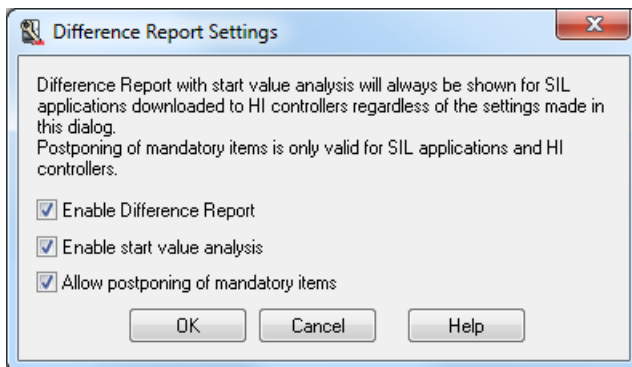

Figure 106. Difference Report Settings dialog
2. In the Difference Report Settings dialog, use the **Allow postponing of mandatory items** check box, to enable/disable the postponing of review of mandatory items (see Figure 106).